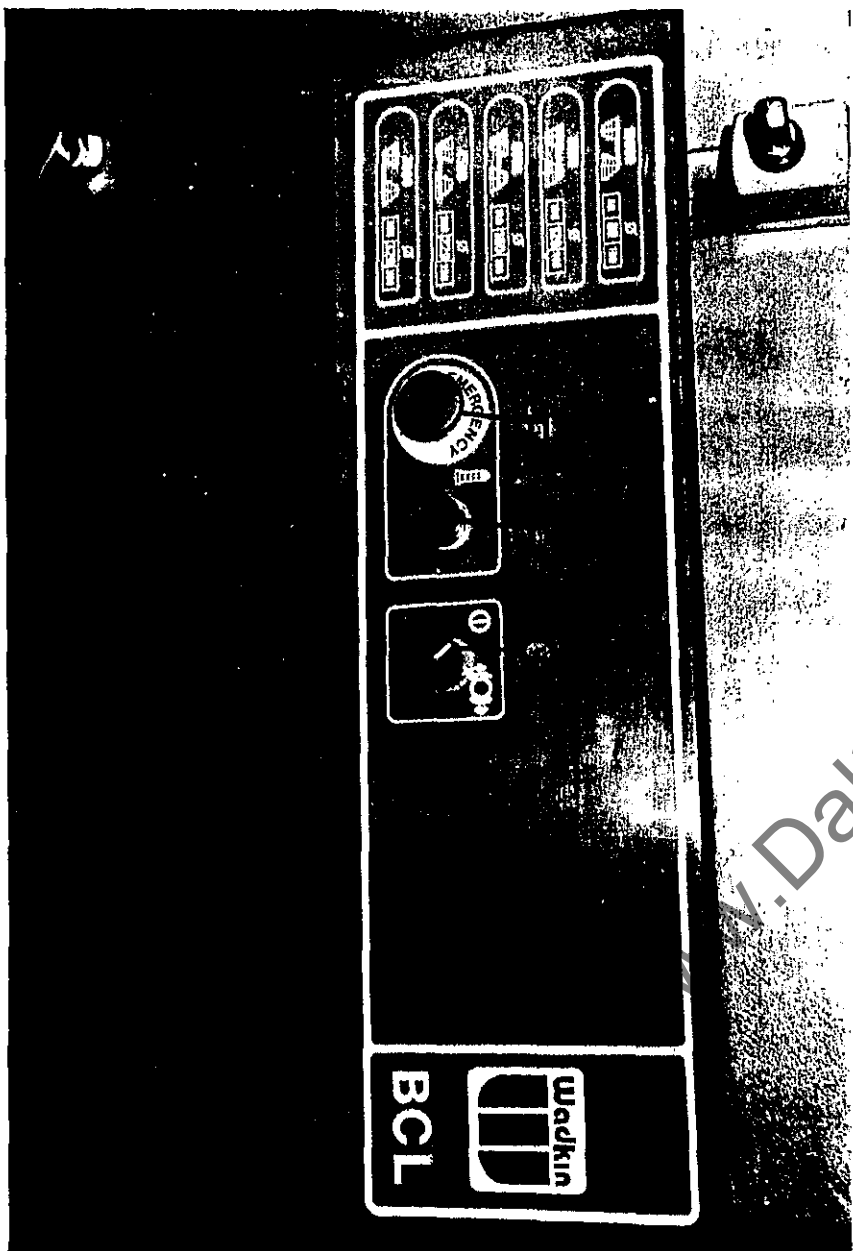

FIG. 5
The control panel is shown in FIG.5. When isolator "D" FIG.6 is fitted, ensure it is in the 'ON' position before operating.
The spindle is controlled by start button "E" and emergency stop button "F", FIG.5.
- c) Disengage brake by switch "G" FIG.5.